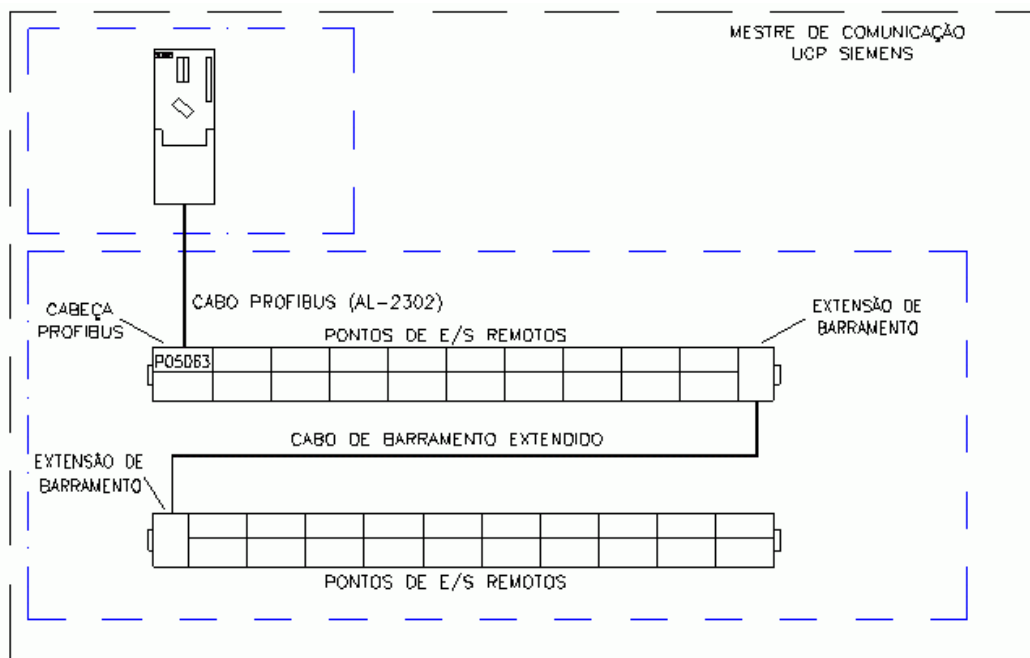

Figure 4-11 PROFIBUS Head connected to other PLCs
Other manufacturers master devices may connect to the Ponto Series, as long as they comply with the PROFIBUS-DP norm. The user must pay attention to required cables and connectors (see item 2.1). The figure 4-11 shows the schematic connection of one or more Ponto Series heads to another CPU (in this case a Siemens master).